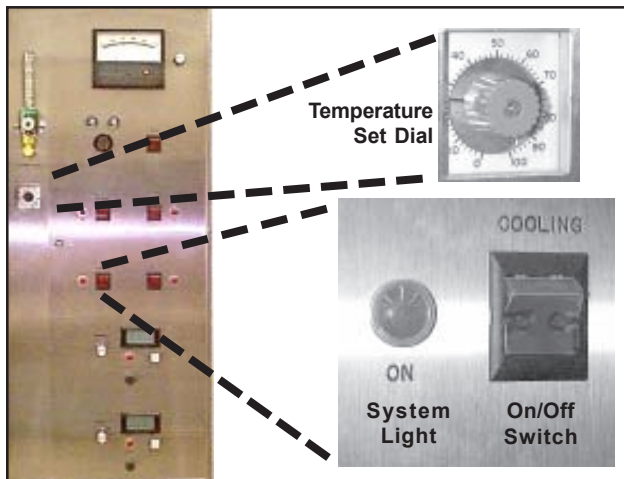

Figure 57. Cooling Controls
3. Press the cooling on/off switch to turn cooling On. The amber light in the switch comes on (Figure 57).